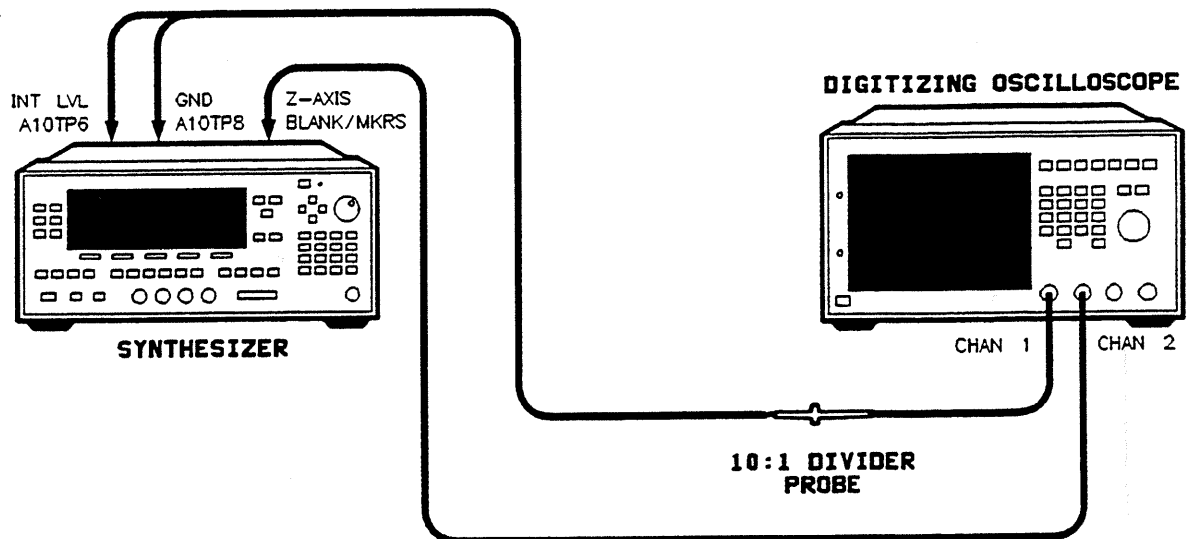

Figure 3-23. Modulator Offset and Gain Adjustment Setup
1. Connect the equipment as shown in Figure 3-23. Preset the instruments and let them warm up for at least one hour.
Select **Modify Cal.** Use the numeric keypad to enter the corresponding default value in Figure 3-23. Terminate your entry with the **ENTER** key.
4. Using the up/down arrow keys, select each of rest of the calibration constants in Figure 3-23 and set their default values by entering the value on the numeric keypad. Terminate your entry with the **ENTER** key.
7. Connect the oscilloscope as shown in Figure 3-23.